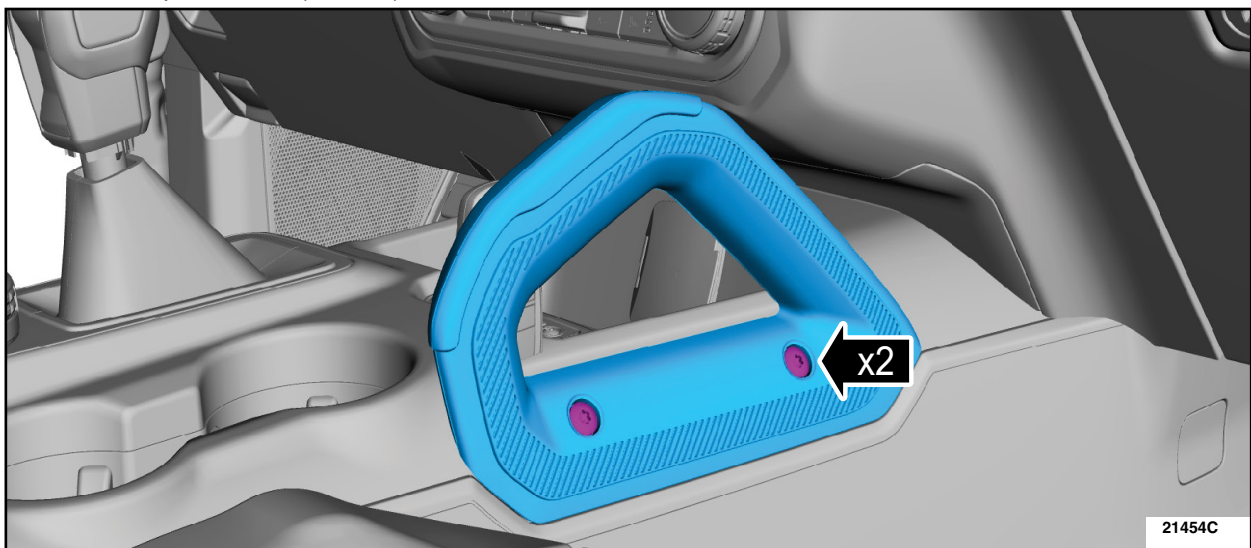

FIGURE 3
4. If equipped remove the screws and the console handle. See Figure 3.